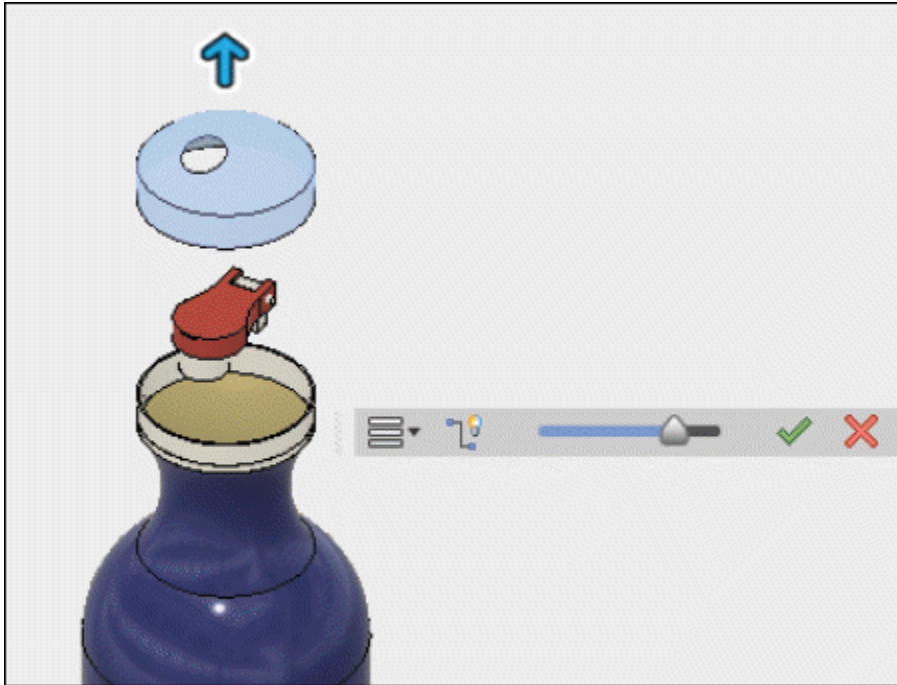

Figure-48. Separating the selected component
- Move the **Explosion Scale** slider to separate the selected component from remaining model; refer to Figure-48.